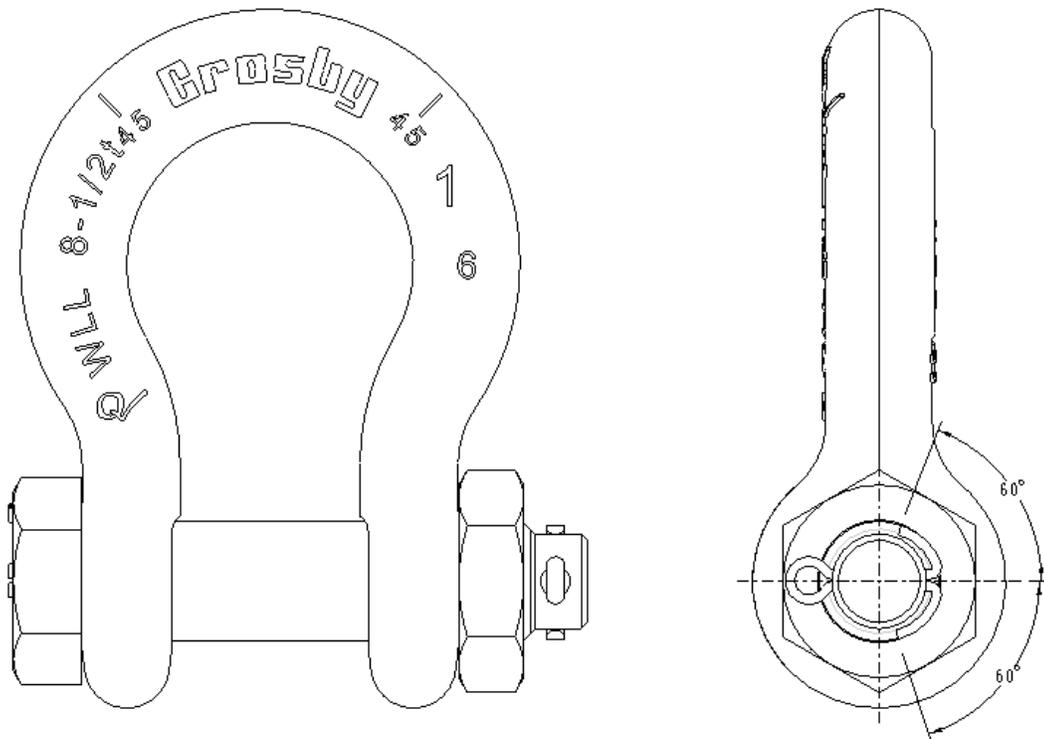

Figure 1: Cotter pin installation in a 1" bolt type shackle.
2. The prongs are to be bent in opposite directions around the bolt or pin as shown in Figure 1 below.